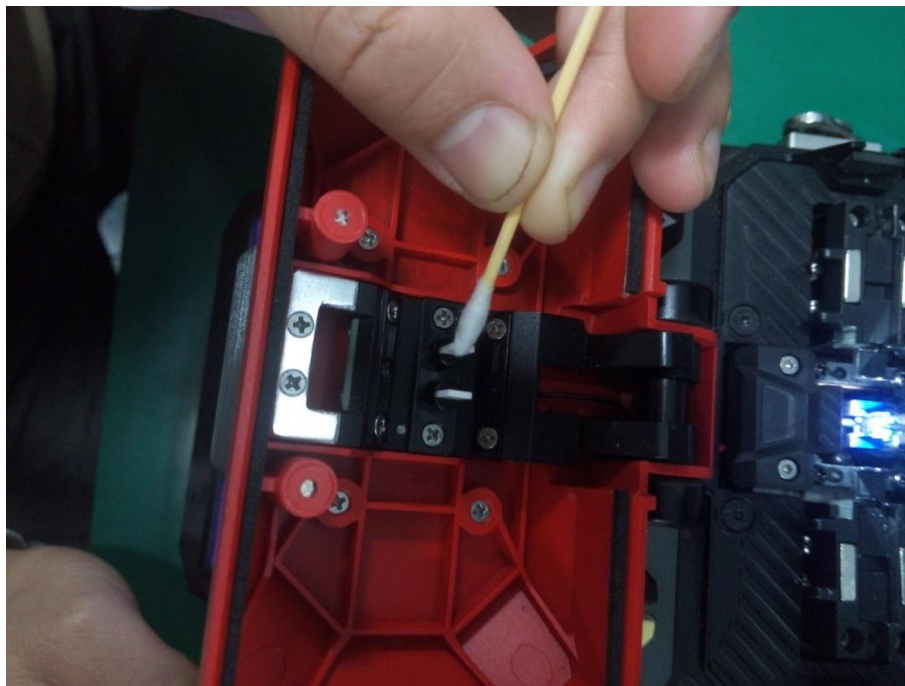

Fig.23 Cleaning of presser
- d) As shown in Fig.23, clean the fiber presser with a fine cotton swab moistened with alcohol.